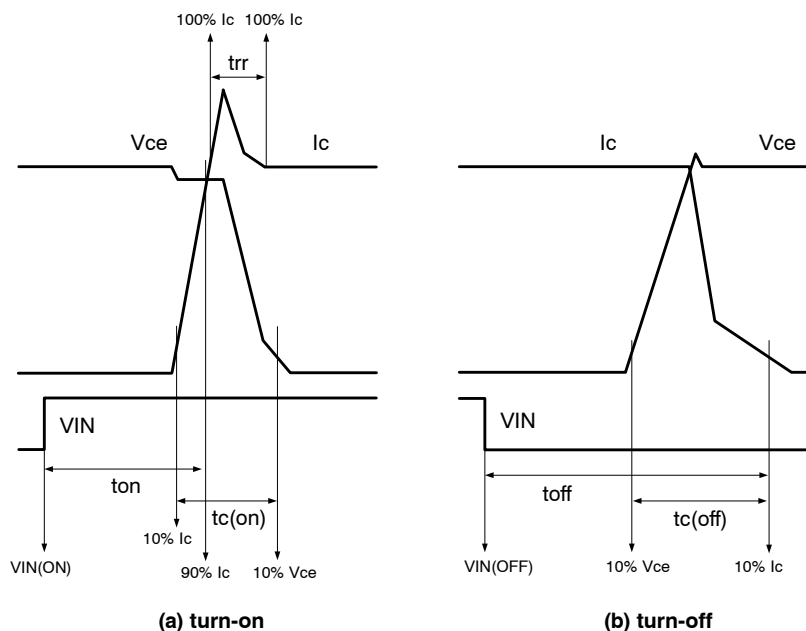

Figure 3. Switching Time Definition
| HS       | ton                                  | Switching TimesVPN = 300 V, VDD = 15 V, Ic = 50 ATj = 25°CIN = 0 V ↔ 5 V, Inductive LoadSee Figure 3(Note 6) |                       | 1.10 | 1.70 | 2.30 | μs |
| LS       | ton                                  | Switching TimesVPN = 300 V, VDD = 15 V, Ic = 50 ATj = 25°CIN = 0 V ↔ 5 V, Inductive LoadSee Figure 3(Note 6) |                       | 1.00 | 1.60 | 2.20 | μs |
- ton and toff include the propagation delay of the internal drive IC. tc(on) and tc(off) are the switching times of IGBT under the given gate-driving condition internally. For the detailed information, please see Figure 3.